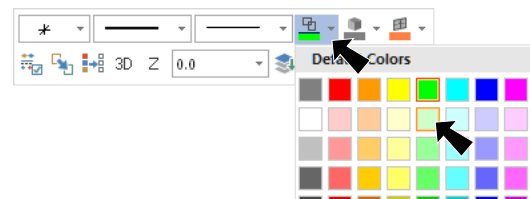

Fig. 40
Step 1. Sketch **switch** light green. Right click in the graphics window and on the Mini Toolbar click **Wireframe Color**  drop down arrow and select **light green**, Fig. 40.